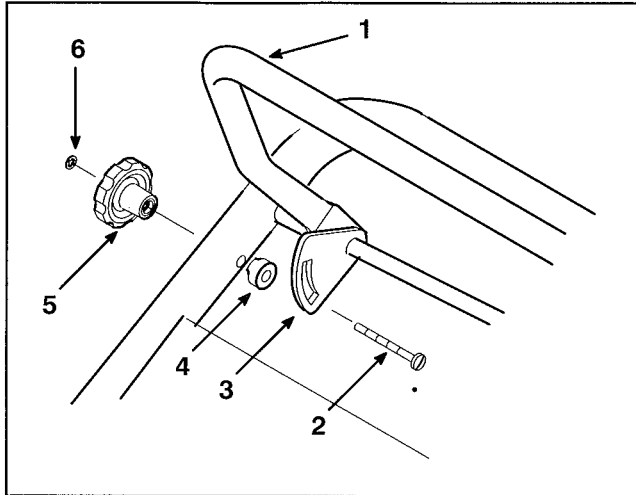

Figure 5
SECURE REFERENCE HANDLE (Fig. 5)
- Loosely secure handle assembly bracket to upper handle with a carriage bolt, latch spacer, handle knob and bolt retainer as shown in fig. 5.